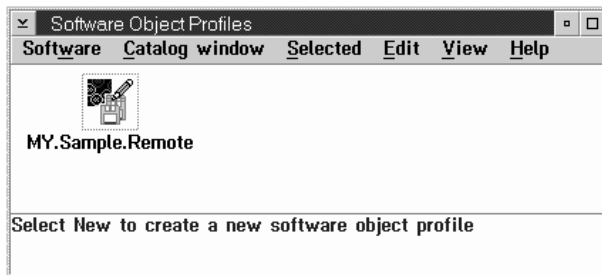

Figure 84. Software objects profile window
- 17 Click on the **OK** push button, the Software Object Profiles window is displayed. It contains the **My.Sample.Remote** object just created, as shown in Figure 84.